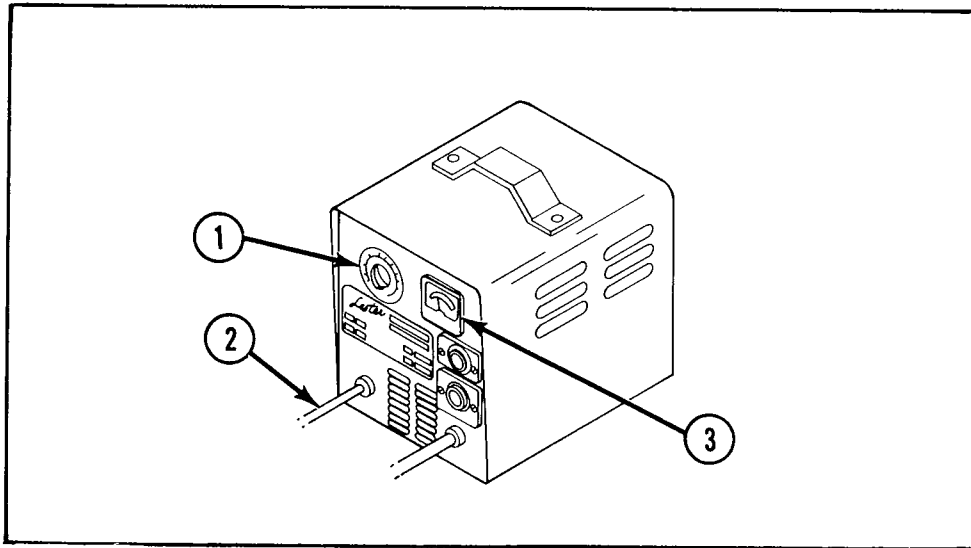

Figure 5-3. Battery Charger
(2) Batteries and cables should be inspected periodically for signs of cracks in the cases, electrolyte leakage and corrosion of the terminals. Inspect cables for worn spots or breaks in the insulation and for broken cable terminals.
(3) Clean batteries which show signs of corrosion at the terminals, or onto which electrolyte has overflowed during charging. Use a baking soda or ammonia solution to clean the batteries, taking care not to get the solution inside the cells. Rinse thoroughly with clear water. Clean battery and cable contact surfaces to a bright metal finish whenever a cable is removed.
b. BATTERY CHARGING (See Figure 5-3).
- (1) Charge batteries at end of each work shift or sooner if batteries have been discharged.